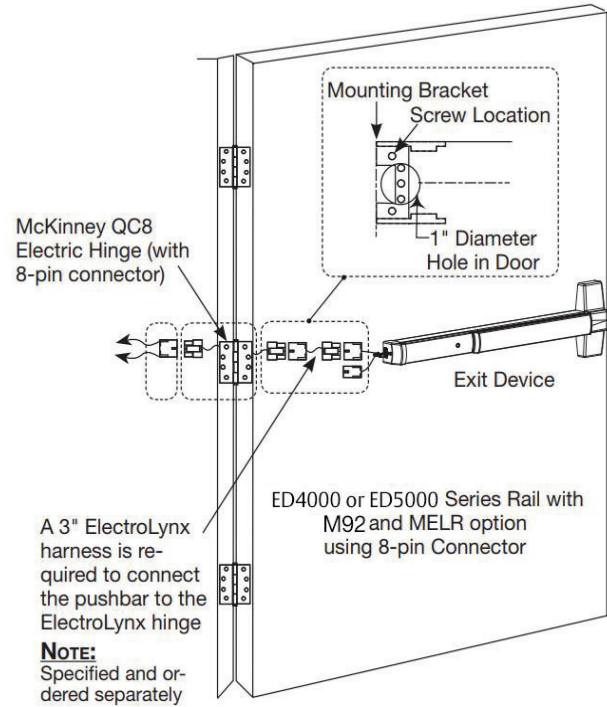

Figure 11 Power Mode Installation
4. Feed the 3" harness through the 1" hole in the door and secure the pushbar to the door using the mounting bracket and two (2) supplied screws (Figure 11).